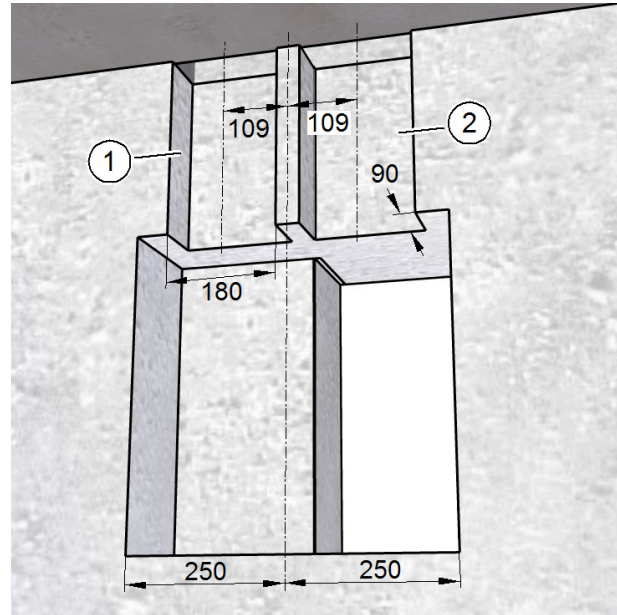

Fig. 8: Chasing out channels for flexible pipe connections, dimensions in millimetres
- ▶ Use the wall chaser to chase out **one** channel 180 mm wide and 90 mm deep as far as the flexible pipe outlet in the ceiling (see Fig. 8) for either the exhaust air pipe (item 1 in Fig. 8) **or** the supply air pipe (item 2 in Fig. 8).
- ▶ Use the wall chaser to chase out **two** channels 180 mm wide and 90 mm deep as far as the flexible pipe outlet in the ceiling (see Fig. 8) for the exhaust air pipe (item 1 in Fig. 8) **and** the supply air pipe (item 2 in Fig. 8).